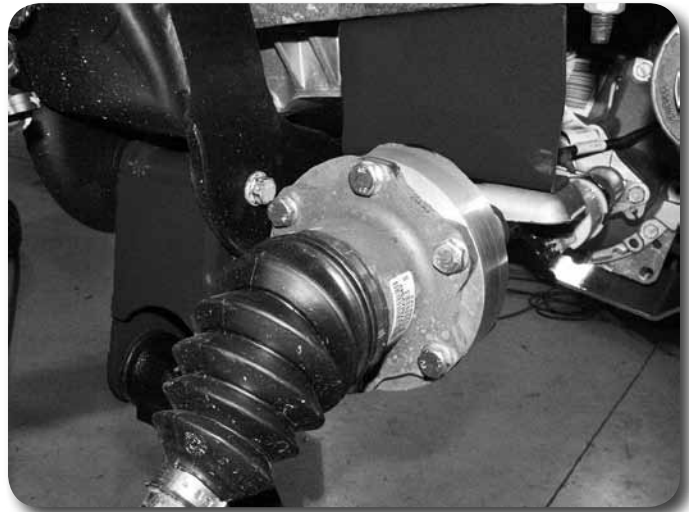

Figure 27
55. Position the provided CV spacer between the CV shaft and the differential mounting flange **Figure 27**. Fasten the CV and spacer to the differential flange with 10mm x 70mm bolts and 10mm washers. Use Loctite on the bolt threads and torque to 45 ft-lbs using a crossing pattern.